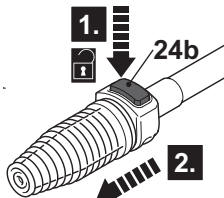

Fig. 7
- > Press the release button (24b) (Fig. 7, step 1) and remove the nozzle (step 2).